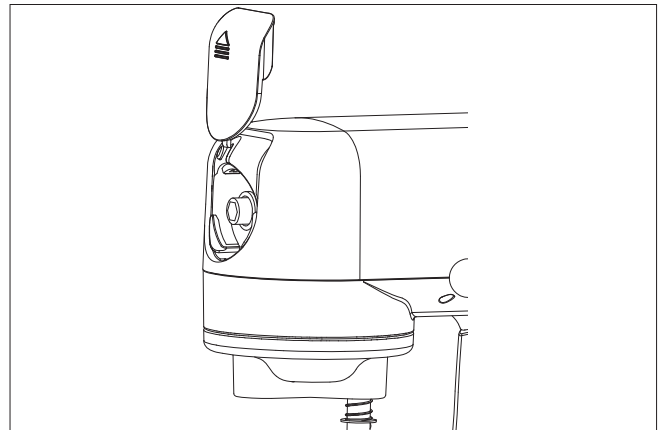

Fig. 13 – Removing the cover
3. Slide up the mincer connection cover and place the cover safely to one side (see Fig. 13).